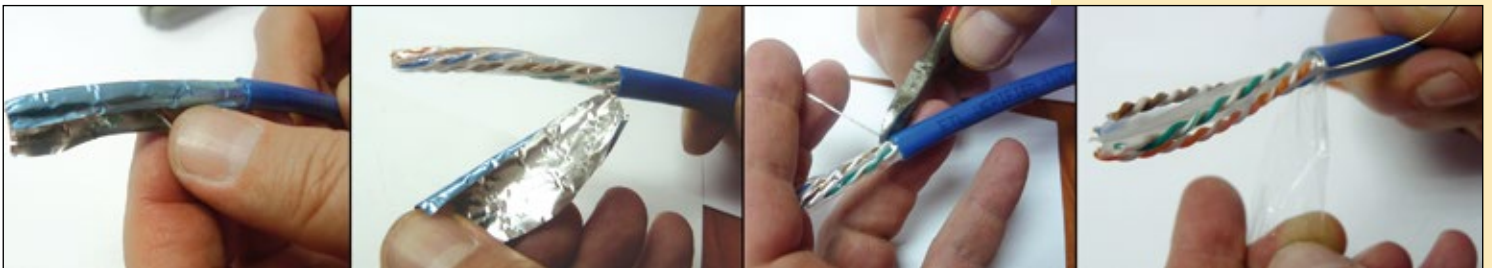

Figure 6
- 5 Proceed to strip the aluminum foil shield and the jacket and put the drain wire aside for later connection to the grounding pin of the connector as shown in **Figure 6**.